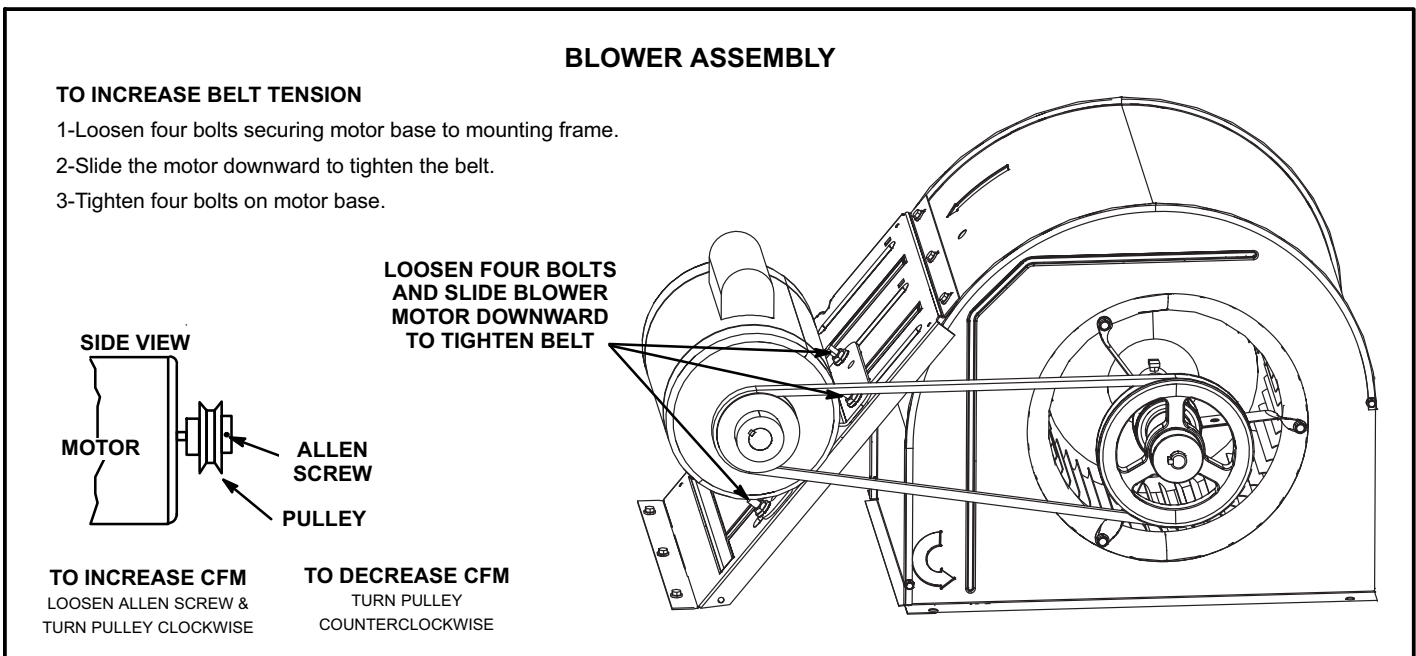

FIGURE 7
- 4- The blower RPM can be adjusted at the motor pulley. Loosen Allen screw and turn adjustable pulley clockwise to increase CFM. Turn counterclockwise to decrease CFM. See figure 7. Do not exceed minimum and maximum number of pulley turns as shown in table 5.
- 1- Loosen four bolts securing motor base to mounting frame. See figure 7.